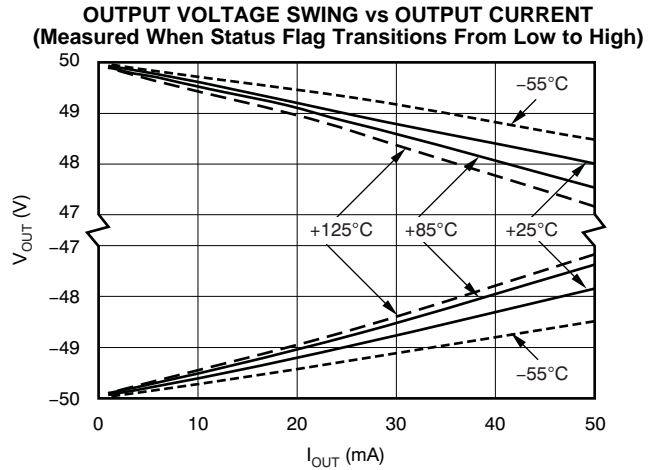

Figure 11.
(9) See typical characteristic curve, *Output Voltage Swing vs Output Current* (Figure 11).